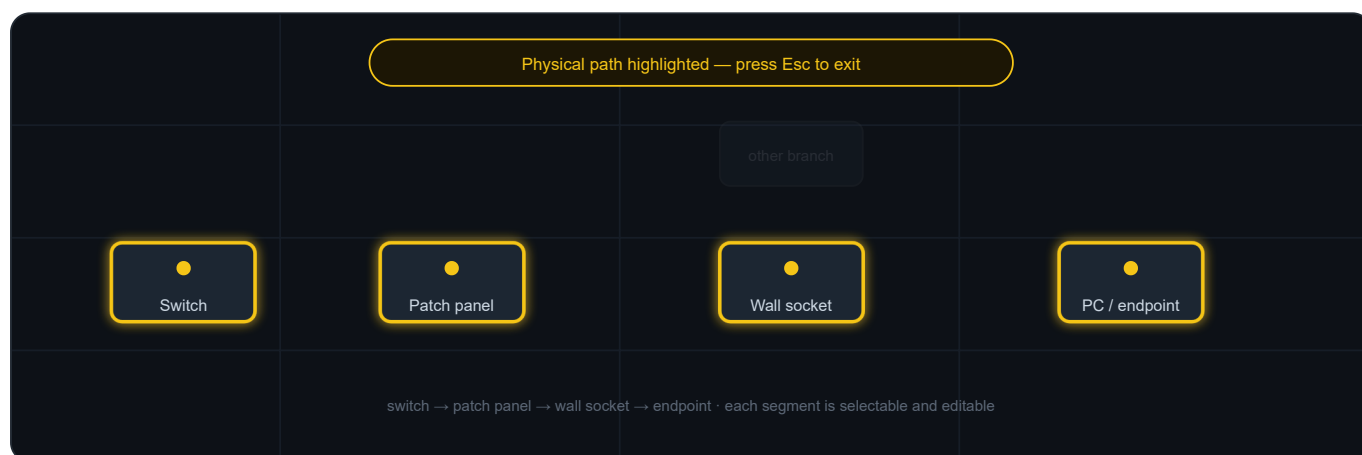

Fig. 5 — **Physical path** highlighting (routing mode): endpoints in yellow, trace in cyan, unrelated branches dimmed. Press **Esc** to exit.
- Double-click the cable → physical path (Fig. 5)